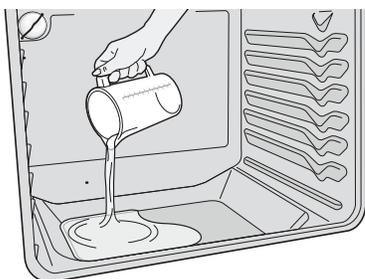

Figure 37: Pour water onto the oven bottom
3. Pour 8 oz (235 ml) of distilled or filtered water onto the oven bottom (See Figure 37). Close the oven door.